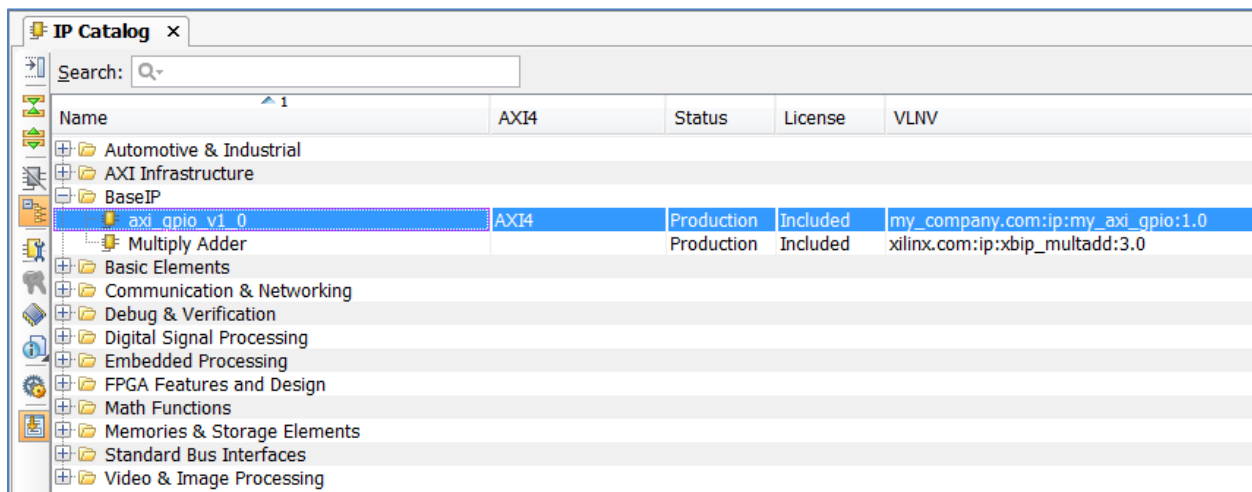

Figure 158: IP Catalog - my_axi_gpio
20. Click the **IP Catalog** tab and look for **my_axi_gpio** in the **BaseIP** category. Review the details (**FIGURE 158**).